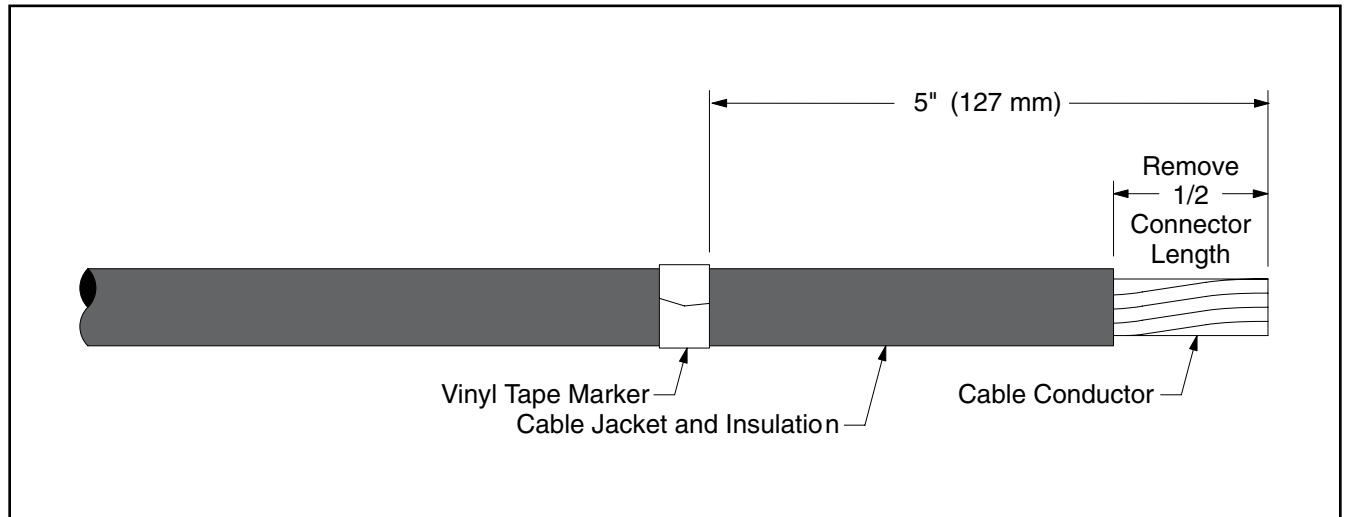

Figure 1
- a. Wrap a marker tape band around cable jacket a distance of 5" (127 mm) from cable end (*Figure 1*).
- b. Remove insulation from cable end a distance of 1/2 the connector length (*Figure 1*).